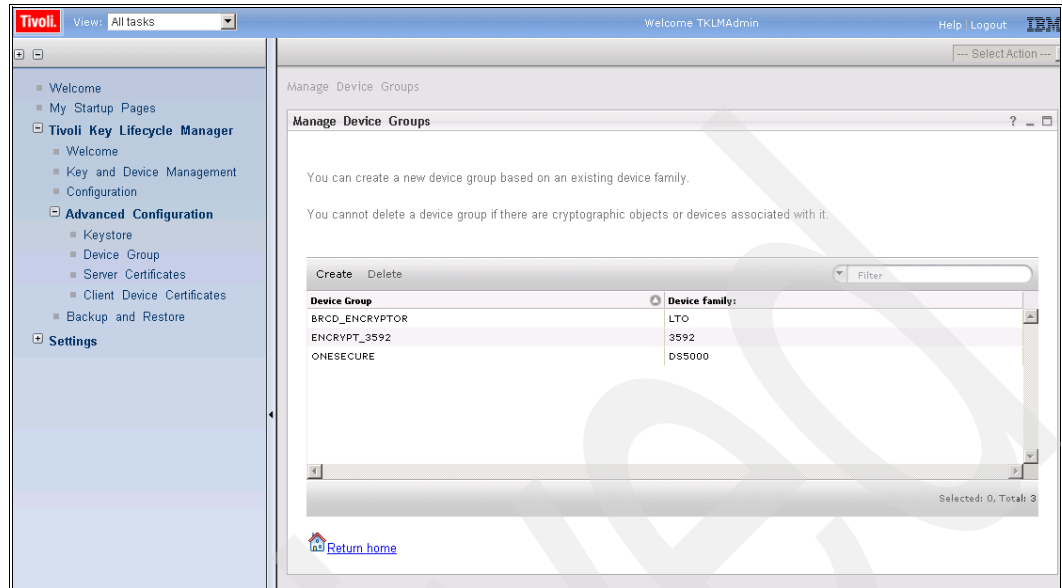

Figure 9-17 Manage device groups after successful add
- After you successfully add the new device group, the **Manage Device Groups** panel will be similar to the one shown in (Figure 9-17).